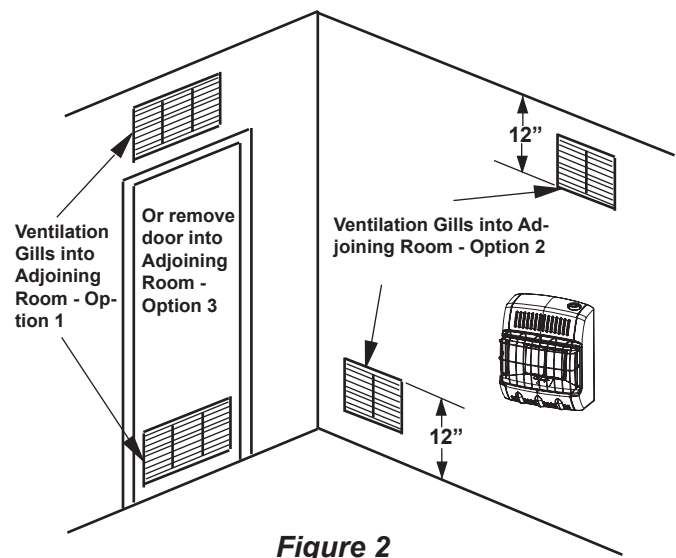

Figure 2
- A. Rework worksheet, adding the space of an adjoining room. If the extra space provides an unconfined space, remove door to adjoining room or add ventilation grills between the rooms. See Ventilation Air From Inside Building (Fig. 2)
This fresh air would come from an adjoining unconfined space. When ventilation to an adjoining unconfined space, you must provide two permanent openings: one within 12" of the ceiling and one within 12" of the floor on the wall connecting the two spaces (see options 1 & 2 of figure 2). You can also remove door into adjoining room (see option3, fig 2). Follow the National Fuel Gas Code NFPA 54/ ANSI Z223.1, Section 5.3, Air for Combustion and Ventilation for required size of ventilation grills or ducts.